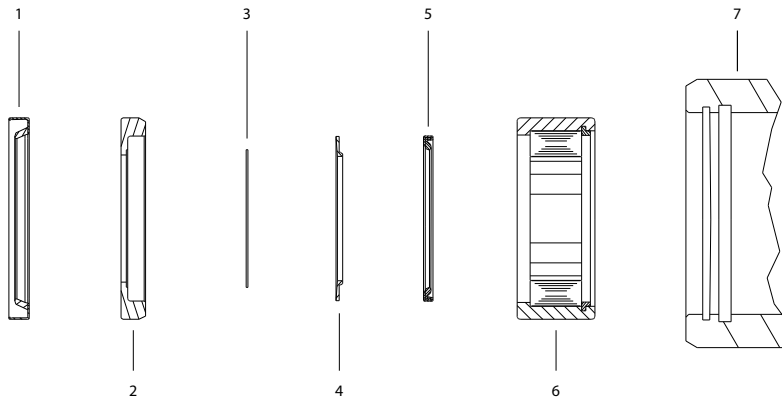

Figure 3: RE 530 W Mount Shaft Stack-up
13. Install high pressure seal (2) into groove in pilot of housing (15). Place shaft on a clean, flat surface with output end facing up. Place thrust washer (13), thrust bearing (14) and second thrust washer (13) over shaft (28). Place bearing spacer (12) over shaft (26). Place seal carrier (10) on a clean flat surface with the flat side facing down. Install metal backup shim (3) into seal carrier (10). Making sure that lips on both seals face up (see figure 3), install backup seal (4) into seal carrier (10) followed by shaft seal (5). Using an arbor press, carefully press down on shaft seal (5) to press seal assembly (3-5) into seal carrier (10). With shaft seal (5) facing down, carefully lower seal carrier assembly down onto shaft making sure to not cut seal lip on keyway.
14. Place shaft (28) assembly into housing (15). Install retaining snap ring (9) into groove in housing pilot (15). (Note: it may be necessary to lightly tap the retaining snap ring (9) to allow it to seat properly.) Replace all shaft related components (i.e. keys, wire rings, nuts). Install dust seal (1) over shaft (25) with lip facing up (see RE 530 W Mount Shaft Stack-Up) and carefully press the seal down to seat it in the housing (15).